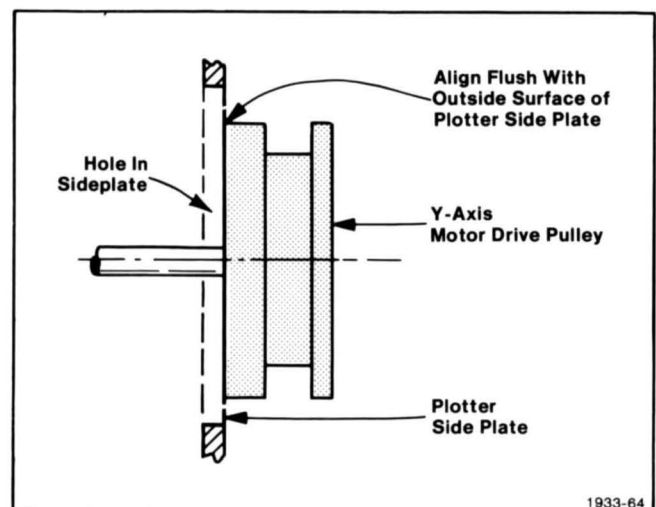

Figure 3-2. Y-Axis Motor Pulley Positioning.
3. **Ensure** that the Y-axis drive pulley (the largest one) is mounted on the right stepping motor. Align the inner pulley flange flush with the outer surface of the plotter chassis (see Figure 3-2).